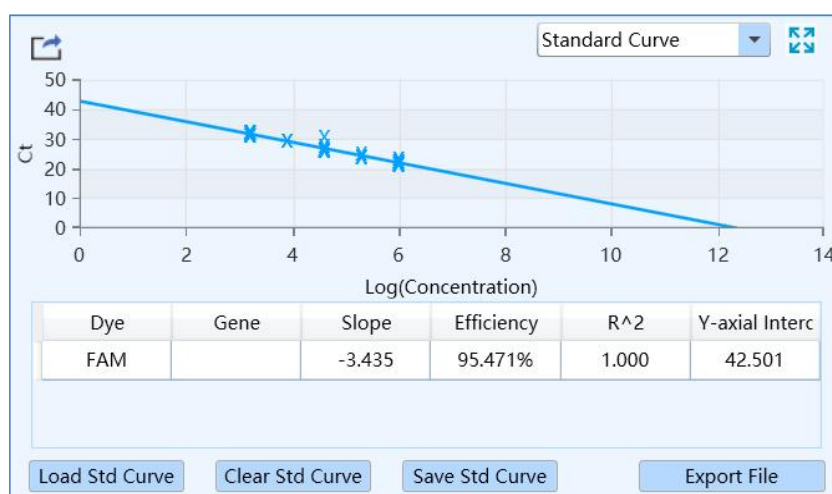

Figure D-9.2. Abs Quant Analysis Interface - Standard Curve Functional Module
- II. Standard Curve:** displays the threshold Ct value against the initial nucleic acid quantity of each standard sample, as shown in figure D-9.2. For absolute quantification, the standard curve is used to assign initial nucleic acid quantities to unknown samples.